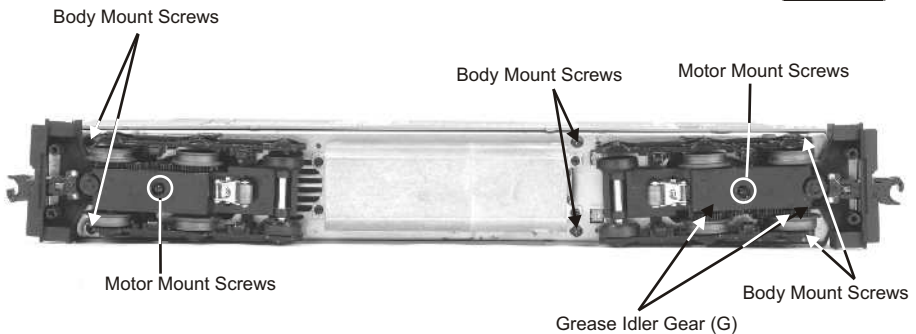
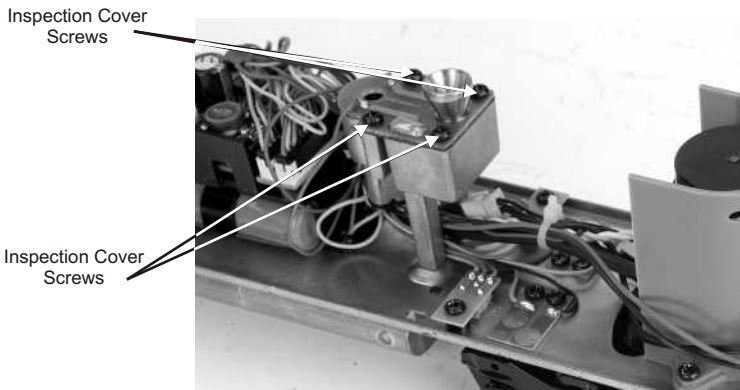

Figure 5. Body Removal Screw Locations
Figure 9. Inspecting the Smoke Unit Wick
1. To access the gear box, remove the cab from the chassis by unscrewing the body mount screws as seen in Figure 5 and lifting the cab from the chassis.
2. Once the cab is removed, remove the trucks by unscrewing the black Phillips motor mount screw located on the underside of the drive trucks (see Figure 5).
If you experience poor or no smoke output when the smoke unit is on and has fluid, check the wick to see if it has become hard, blackened, and unabsorbent around the heating element. After removing the locomotive body from its chassis (See Figure 5), remove the smoke unit inspection cover (see Figure 9). After removing the inspection cover screws, lift the inspection plate away and inspect the wick. If it is darkly discolored and hard, it should be replaced.